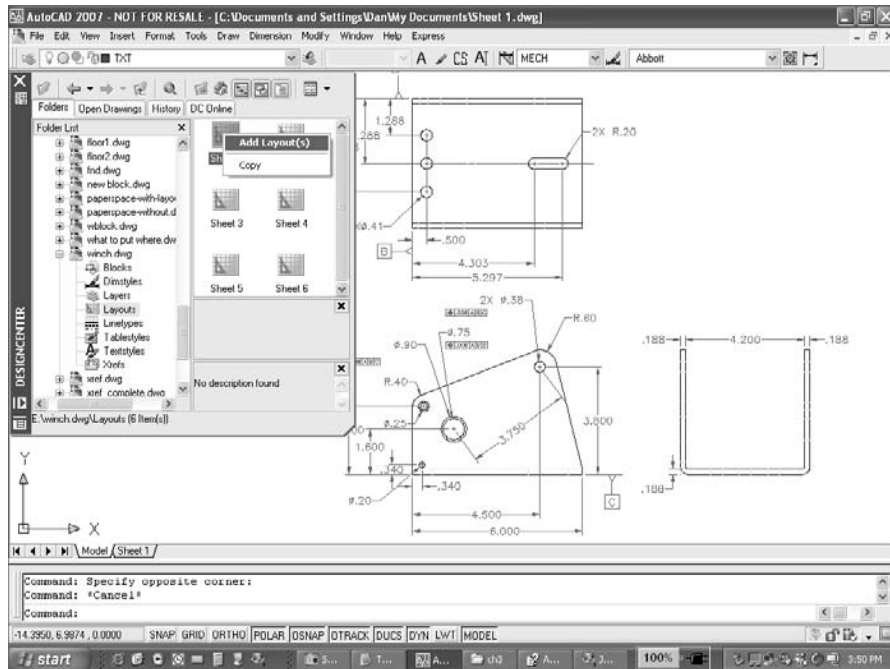

Figure 6.5
4. Open AutoCAD DesignCenter (ADC), and browse to the original drawing as shown in Figure 6.5.
5. To get the entities, including the floating viewports, right-click the layout you want and select Add Layout(s), as shown in Figure 6.5. You get the page setup, the viewports, and all entities in the layout.